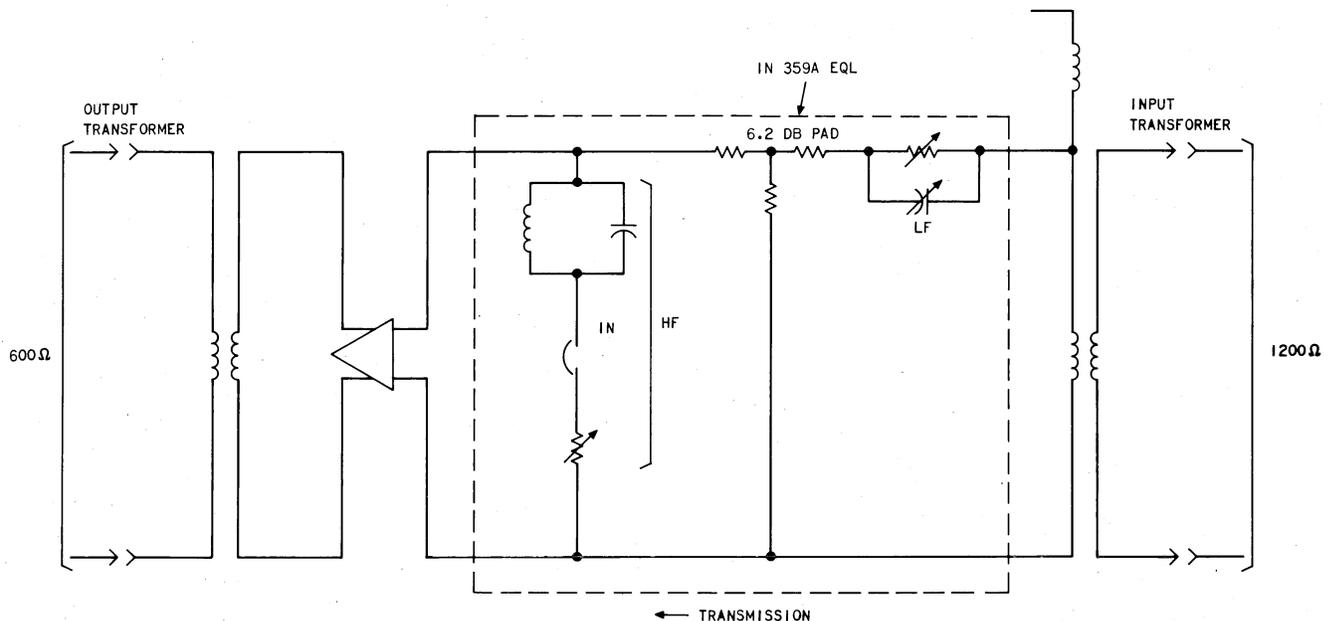

Fig. 6—Location of 359A Equalizer in 227 Amplifier Circuit
**19.03** Figures 6 through 9 show how the equalizers are incorporated into the repeater circuit. Figure 6 shows the 359A equalizer and the way the shelf wiring connects it into the amplifier between the input transformer and the electronic circuit. Independent screw-switch adjustments are provided for the HF and LF parts of the equalizer. A 6.2-dB pad is used between these two parts to minimize interaction between them. The loss of this pad, as well as the 1-kHz loss in the HF and LF sections, is overcome by specifying additional repeater gain. As explained below, the 359A equalizer should never be associated with an 849B network.